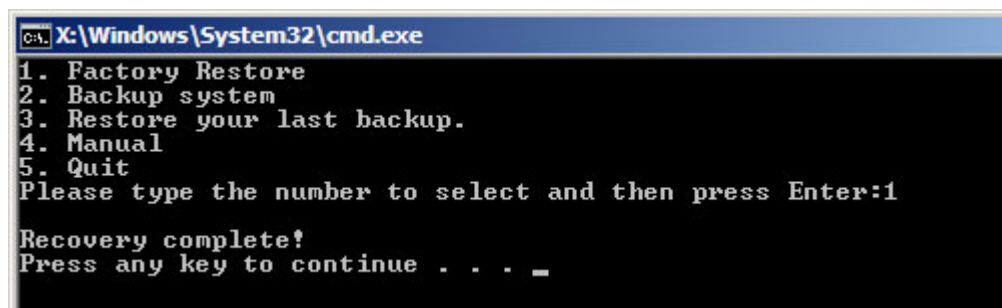

Figure C-36: Recovery Complete Window
Step 3: The screen shown in **Figure C-36** appears when completed. Press any key to reboot the system.